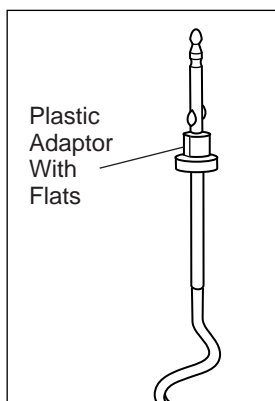
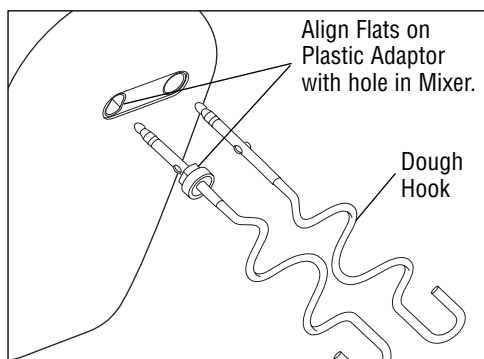

Figure 1
Figure 2
**NOTE:** One of the Dough Hooks has a small plastic adaptor near the top of its stem as shown in Figure 1. This particular Dough Hook is to be inserted into the left hand attachment hole only. See Figure 2. Make sure the flat sides of the plastic adaptor are properly aligned with the flat sides of the left hand attachment hole. There are no such restrictions with either type Beater.